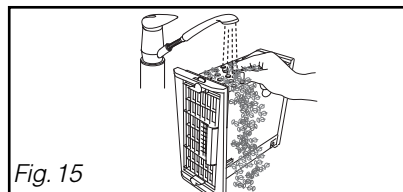

Fig. 15
- Clean it just with water under the tap (Fig.15).